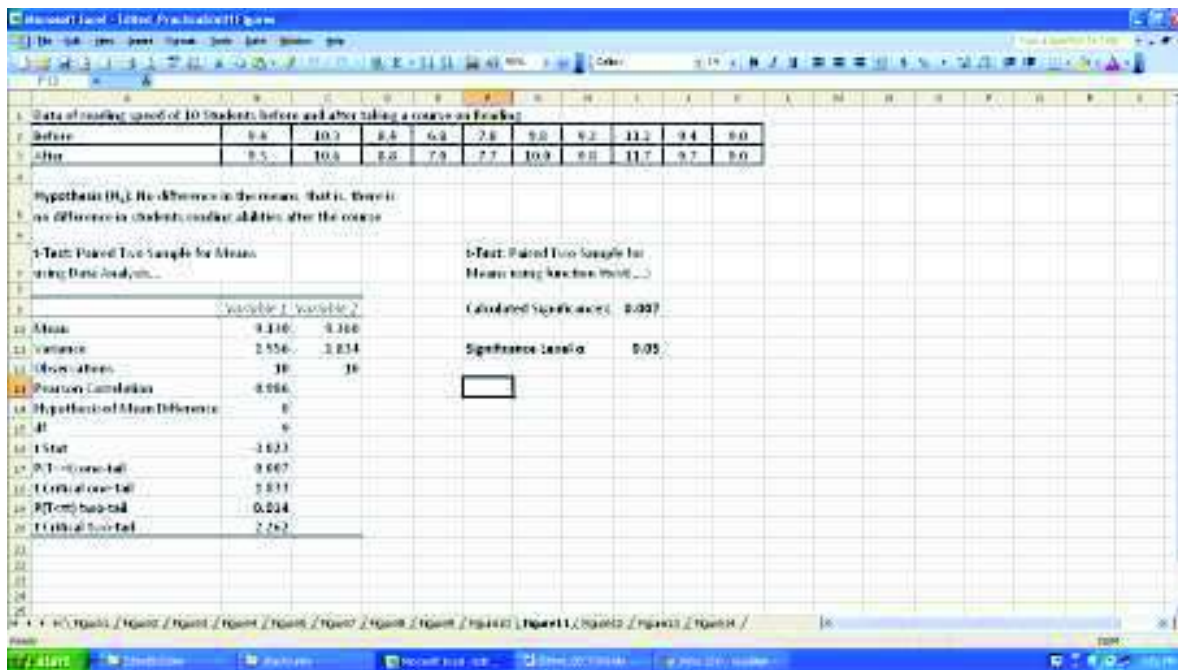

Figure 11: An example of use of t-test
You can apply the Left-Tail t -test to test the hypothesis using spreadsheet package. Figure 11 shows the application of “t-test: Paired Two Sample for Means” test on the data. You can apply this test in two ways in the spreadsheet.
- In the resulting dialog box enter the two ranges of data and output range as shown in Figure 11.
On applying the test, the results so generated are shown in Figure 11. Some of the terms that are of importance in the present case are: *mean, variance and number of observations* for both the samples, *number of degrees of freedom* (d.f.) and p -value and t -value for one or two tails.
The result shown in Figure 11 has been generated using the formula